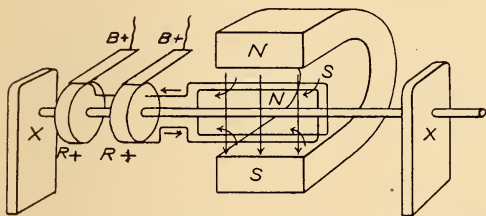

FIG. 1. ALTERNATING CURRENT DYNAMO.
by virtue of the cutting of these lines of force. Figs. 1 and 2, from Mann and Twiss' Physics, show how the armature coils are supposed to generate current, the arrows showing the direction in which current will flow in the armature coils and connecting wires. The diagrams show the pole pieces as ordinary horseshoe magnets, although, as a matter of fact, the shape varies in different forms of dynamos and motors, some having a large number of poles, always alternating, however, a north pole then a south pole, then a north pole, and so on.
To illustrate: Fig. 1 is the alternator. It has two collector rings on the shaft
A design of an alternating current solenoid is shown in Fig. 1. Its dimensions are in accordance with those given by you. The spool is enclosed by an iron shell in order to increase the magnetic flux. For the same reason the air gap (X) should be as small as possible,